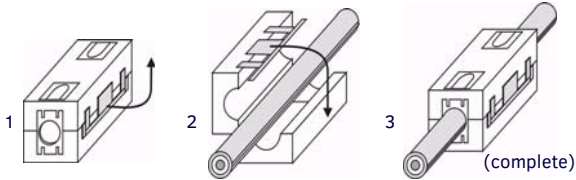

FIG. 4 INSTALLING THE CAT5 SUPPRESSION FERRITE
- Clip the included CAT5 Suppression Ferrite around the Ethernet cable, 2 to 3 inches (51-76 mm) from the NXB-CCG's Ethernet port (FIG. 4).